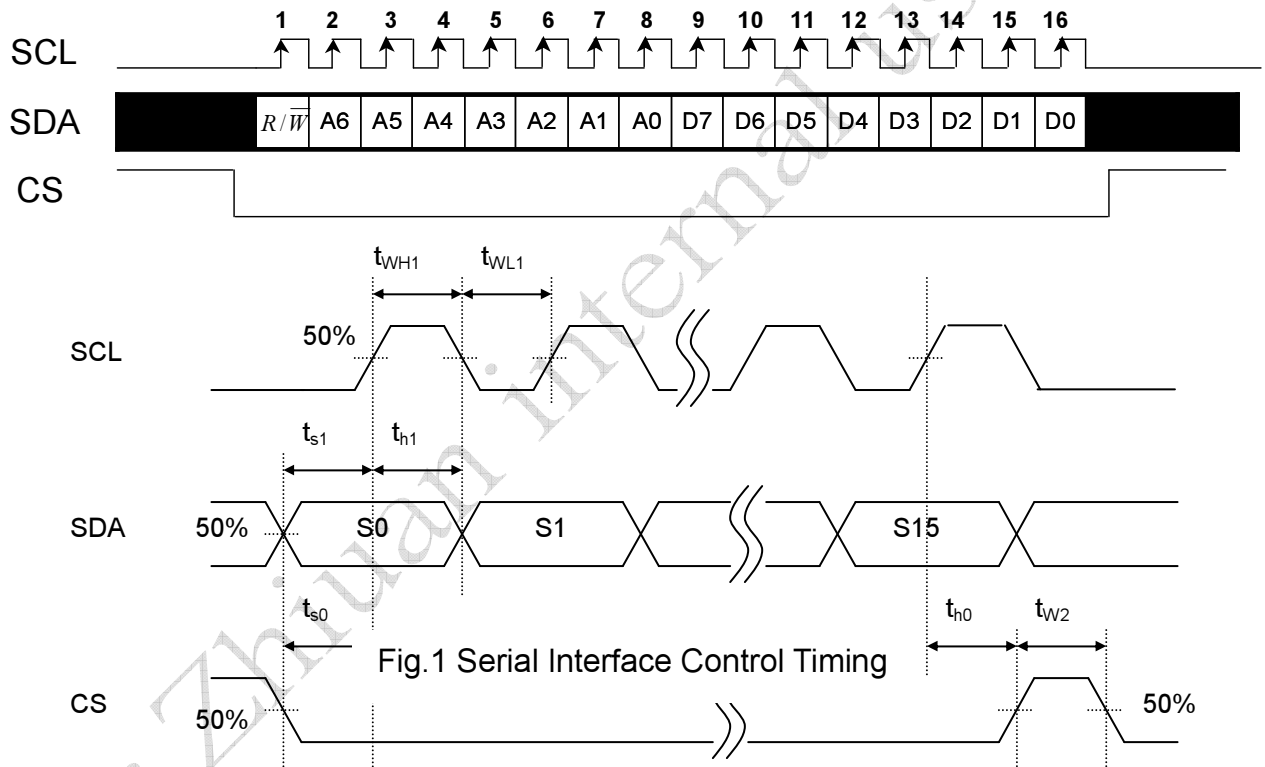

Fig.1 Serial Interface Control Timing
2.6.1 Input timing specifications (refer to Fig. 1)